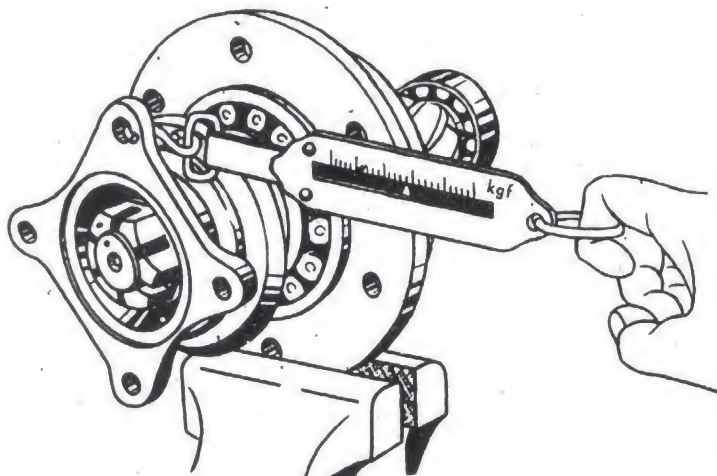

FIG. 42. CHECKING OF AXLE DRIVE PINION BEARINGS FOR TIGHTENING
14. Check tightening of the bearings. Interference of the bearings should be so adjusted that resistance to the drive pinion rotation is 10 to 18 kgf·cm (without the oil seals). To check the bearings for tightening, use a dynamometer (Fig. 42).